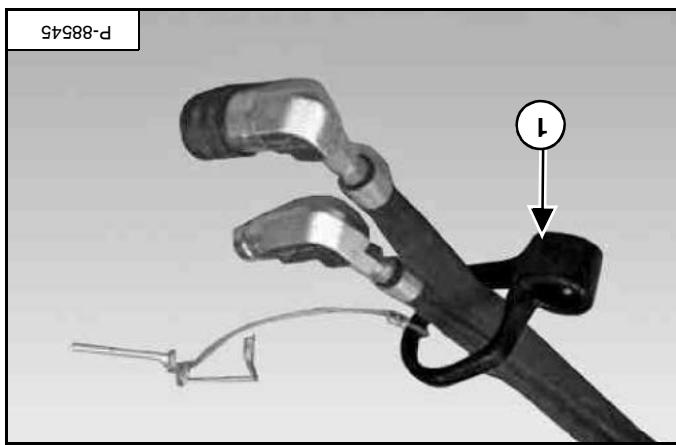

Figure 37
**NOTE:** Check that the attachment hydraulic hoses are not twisted or contacting any moving parts of the loader or attachment. (See Figure 37.) For proper first time installation on Page 37.)
The removable hose guide (Item 1) [Figure 37] is pre-installed on the hydraulic hoses. If the orientation of the hose guide needs to be changed, (See Hose Guide Installation (Removable - If Equipped) on Page 27.)